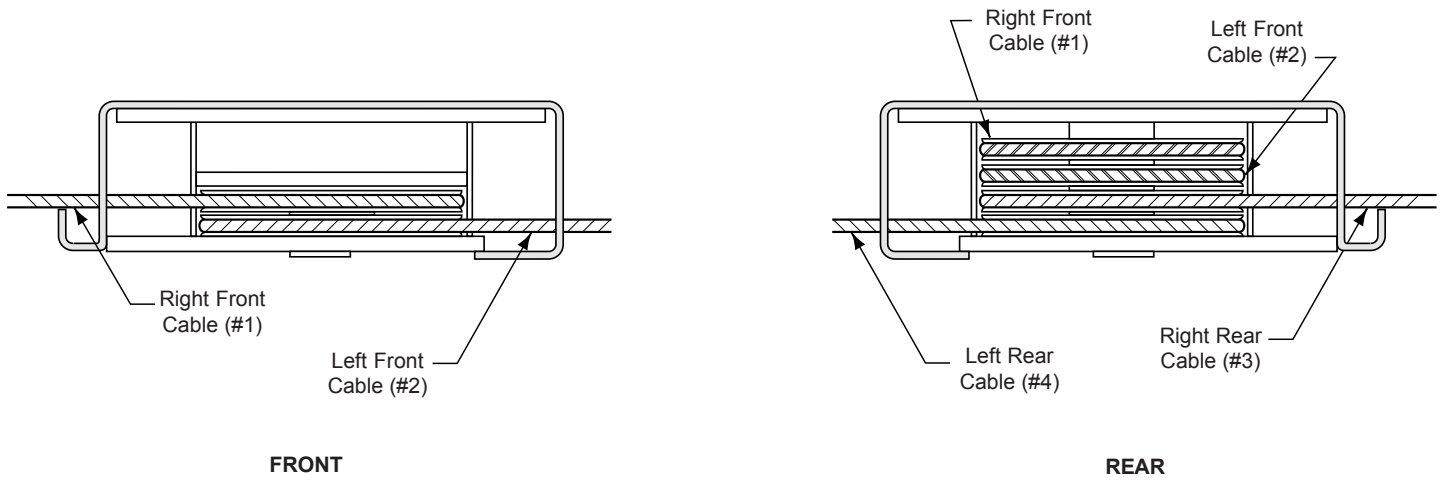

Fig. 3
- B. Position left runway in bay with hydraulic cylinder hose connection to rear of bay. Cables and sheaves are pre-assembled in runway. Runway needs to be up off floor so shipping restraints can be removed from cable ends, air and hydraulic lines, and cylinder rod. Pull cable ends, air, and hydraulic lines out for assembly. Make sure cables are in proper sheave grooves, Fig. 3.